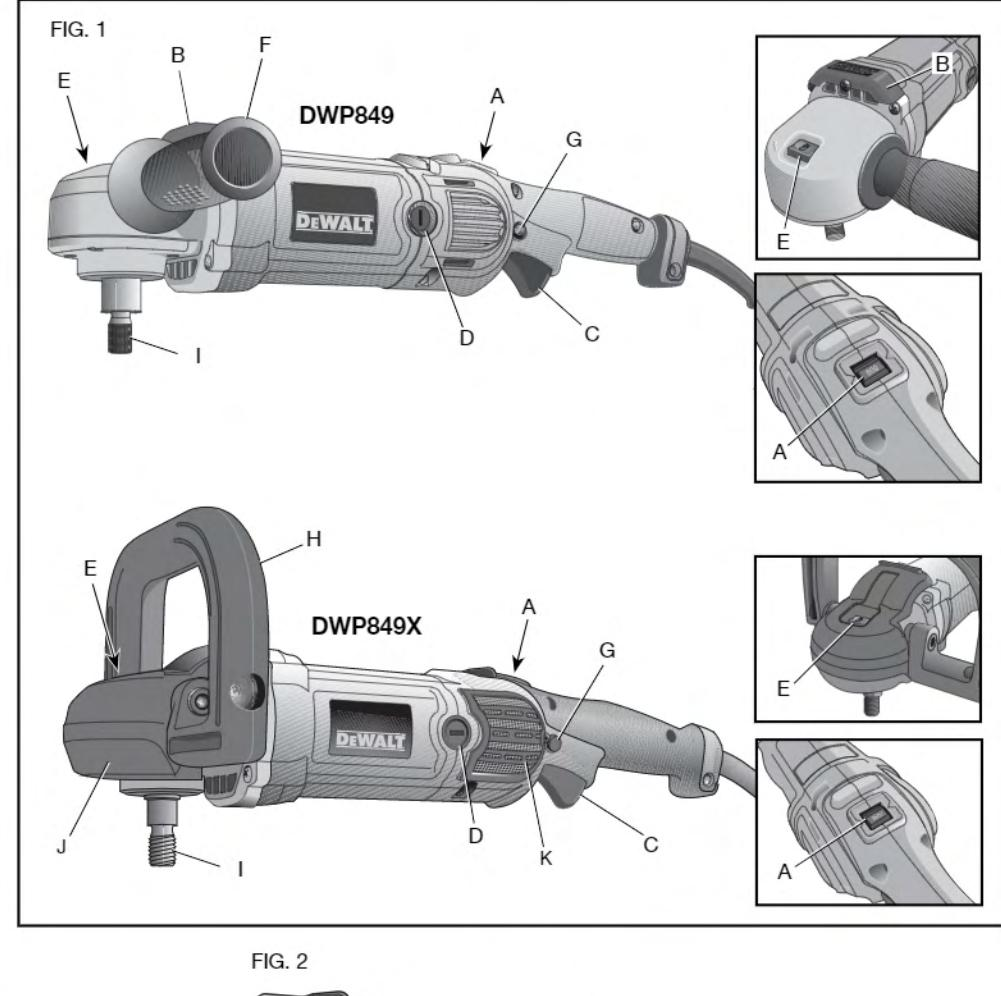

FIG. 1
### COMPONENTS (Fig. 1)
### Auxiliary Handle (Fig. 1)
### Variable Speed Trigger Switch (Fig. 1)
These tools are equipped with a variable speed trigger switch that permits speed control from 0 to 3500 RPM. To turn the tool on, squeeze the trigger switch (C) shown in Figure 1 until the tool starts to run. The farther you depress the trigger, the faster it will operate. Releasing the trigger turns the tool off.
The tool can be locked on for continuous use by squeezing the trigger switch fully and depressing the lock button (G) shown in Figure 1. Hold the lock button in as you gently release the trigger switch. The tool will continue to run. To turn the tool off from a locked-on position, squeeze and release the trigger switch once. Do not unplug the tool with the switch in the locked-on condition. Make sure the tool is not locked on when plugging in.
### Speed Control Wheel (Fig. 1)
### Spindle Lock Button (Fig. 1)
### Wool Ingestion Shields (Fig. 1, 2)
### Soft Rubber Gear Case Cover (Fig. 1)